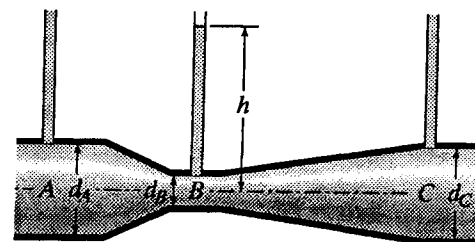

Figure P5.33
- 5.33 In the constricted pipe of Fig. P5.33 friction loss between  $A$  and  $B$  is negligible while between  $B$  and  $C$  it is  $0.15(V_B^2/2g)$ . Given  $h = 750$  mm,  $d_A = d_C = 250$  mm,  $d_B = 100$  mm. Find the pressure heads at  $A$  and  $C$  if the liquid is flowing through the circular pipe from  $A$  to  $C$  at the rate of 280 L/s.